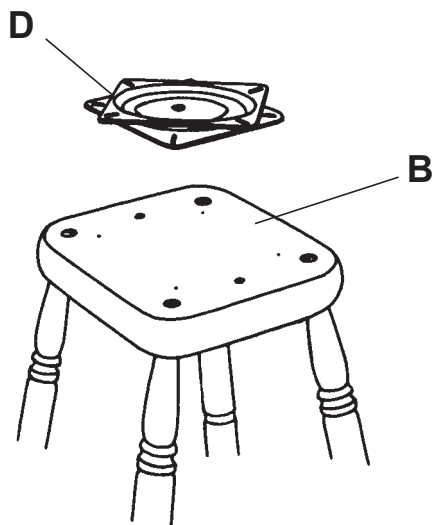

FIG. 9
- 9) The top of the swivel is marked "FRONT" for your convenience. Center the Swivel (D) on the Disc (B) lining up the screw holes in the swivel with the indentation marks on the disc. Remove the swivel and drill a 1/8" pilot hole, 1/2" deep into the center of each indentation mark. Fasten the swivel to the disc with the #12 x 1" Pan Head Screws (I). See FIGURE 9.